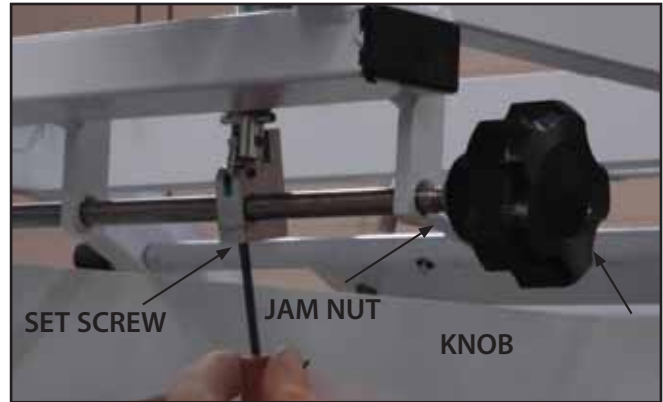

FIGURE 5.7
1. Remove the knob, part number 61659, from the end of the rod, part number 61102, closest to the mechanical locking mechanism **(REFER TO FIGURE 5.7)**.
3. On the under side of the locking mechanism remove the set screw, part number 60013, that secures the locking mechanism to the rod **(REFER TO FIGURE 5.7)**.